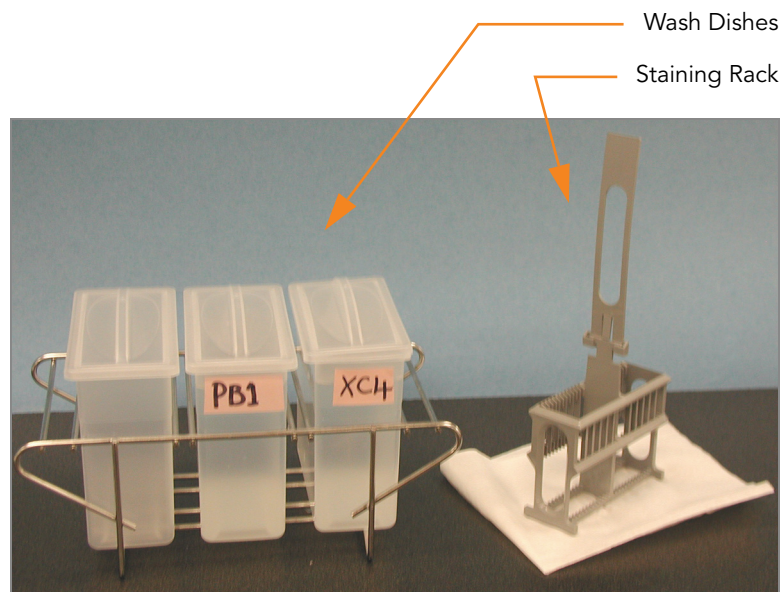

Figure 66 PB1 and XC4 Wash Dishes with Staining Rack
2. Set up two top-loading wash dishes, labeled "PB1" and "XC4" (Figure 66).